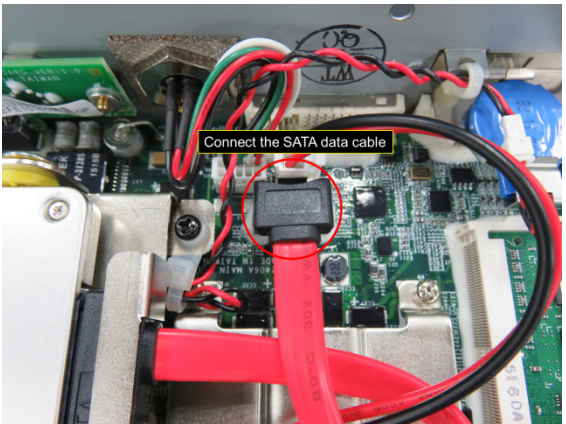

Figure 27
- 4.3.6 Connect the free end of the SATA data cable to main board as shown in Figure 27.